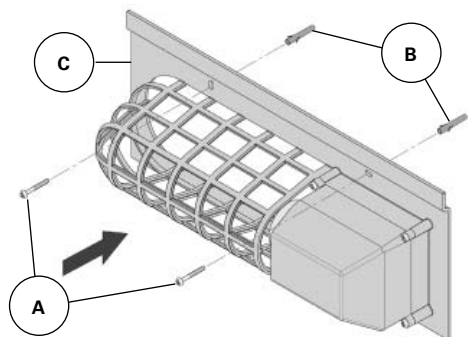
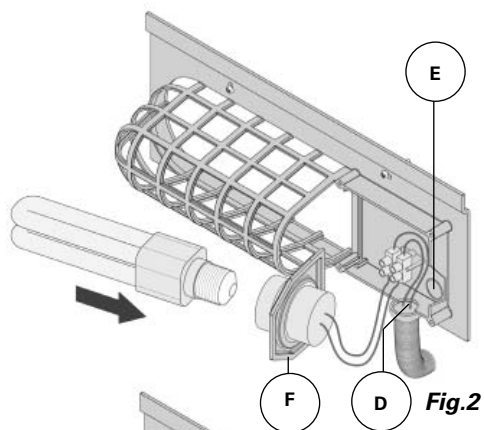

Fig.1
Fig.2
1. Using a drill with a 5 mm bit, make 2 holes in the wall and insert the screw anchors (B) supplied in the holes (fig. 1).
2. Fix the bracket (C) to the wall placing the 2 screws (A) in the holes in the upper part (fig. 1).
4. Make the electrical connections: for the passing through of the cables you can use the existing opening (D) or the optional one, after having removed the circular closure (E)
5. Screw the bulb into the bulb holder (F) (fig. 2).